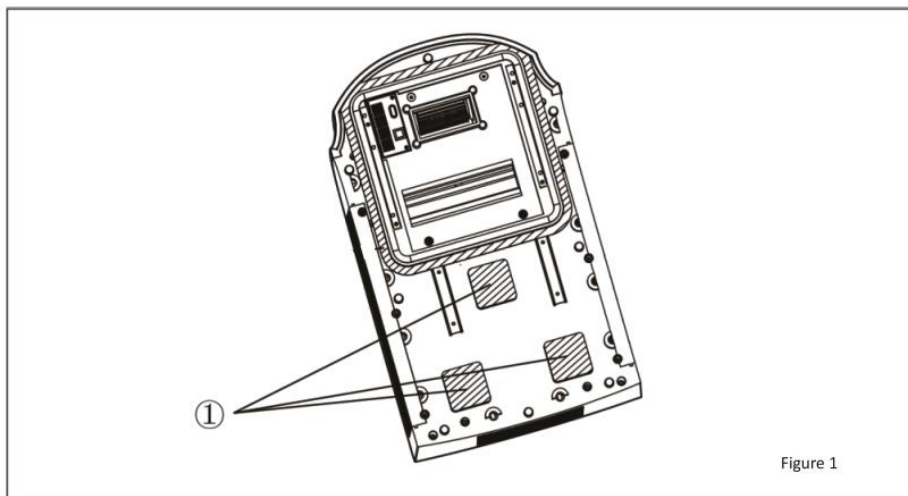

Figure 1
1. Before sticking the sealing strip and sponge pieces to the underside of the outdoor unit, clean the sticking areas shown in figure 1.
2. Take out the sealing strip and the sponge pieces from the packaging, pull off the paper on the glue surface and align them at the sticking positions as shown in Figure 1. If the sealing strip is damaged or not stuck on the proper position, you must replace it with a new one and stick it properly.